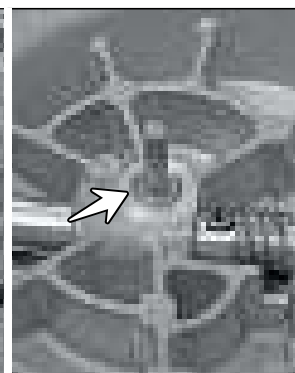

Fig. 3.205B
- Also ensure that pin clutch release is assembled on the cover clutch. (Fig. 3.205B)